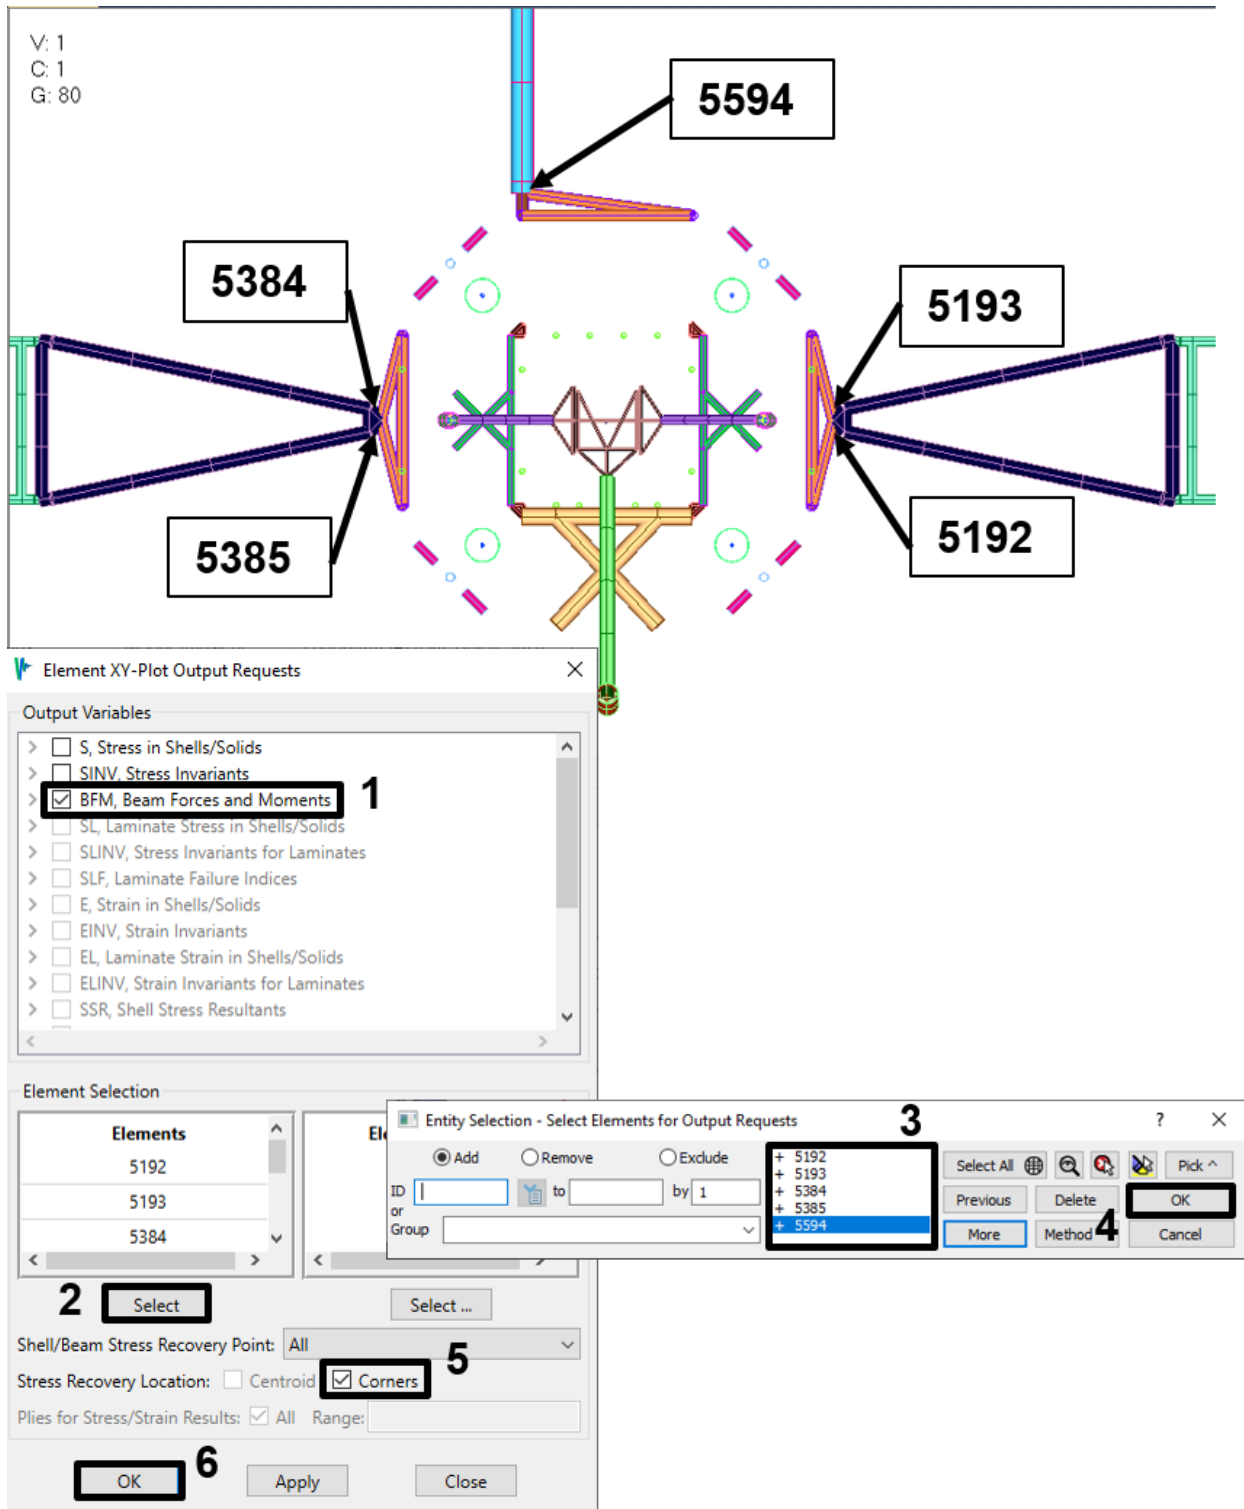

Figure 4-107. Request beam forces in elements that attach appendages to bus.
12. Now we want to be sure that the solar arrays and instrument package do not fall off due to these thruster firings, so create Element XY output requests for beam forces and moments in the elements that attach them to the spacecraft bus. Note that the Stress Recovery Location text is active, and Corners are checked but grayed out. For BFM results, you must request Corner output since BFM results are not available on the Centroid. (Figure 4-107).